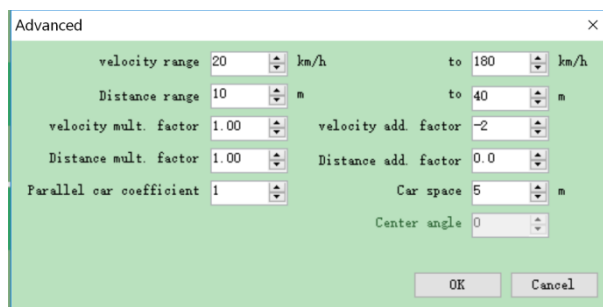
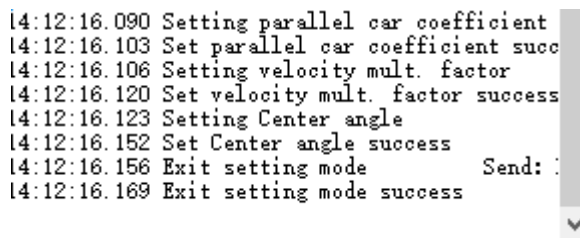

Figure 3.20: check cart mode and click ok button
Figure 3.21: log in status display column
- (j). In advanced options dialog box, you can set velocity range, distance range and other technical parameters, as shown in figure 3.20. When you have set relevant parameters successfully, it will display in status display column as shown in figure 3.21.